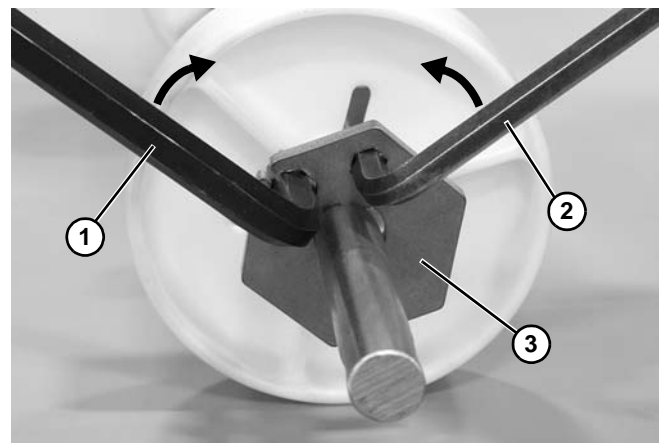

Figure 203
2. Insert an 8 mm (Figure 203, item 1) and 6 mm (Figure 203, item 2) hex wrench into the retainer plate.
3. Move wrenches toward each other to unlock the retainer plate (Figure 203, item 3) and remove from the shaft.